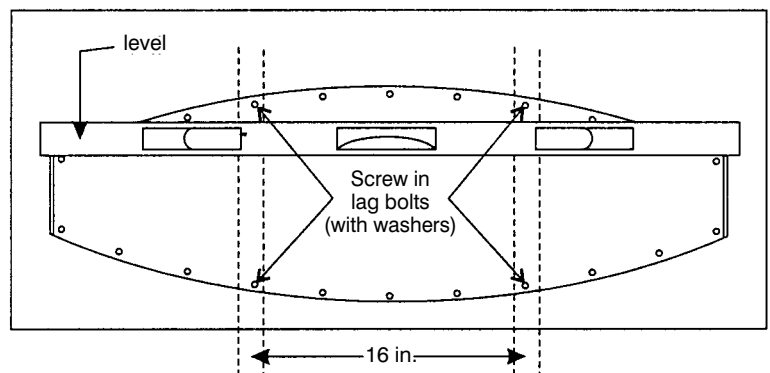

Figure 3. Check for level
Step 3. Drill a 9/64 in. pilot hole through one of the upper (for the top of the bracket) pencil register marks you made in the previous step. Get out your level, you're going to need it for the next step. Get your assistant to hold the bracket in place while you secure the first lag screw through the bracket in the pilot hole you just drilled. Check for level as shown (figure 3) and make any changes necessary to the register marks you made previously. Unscrew the lag bolt and remove the bracket.